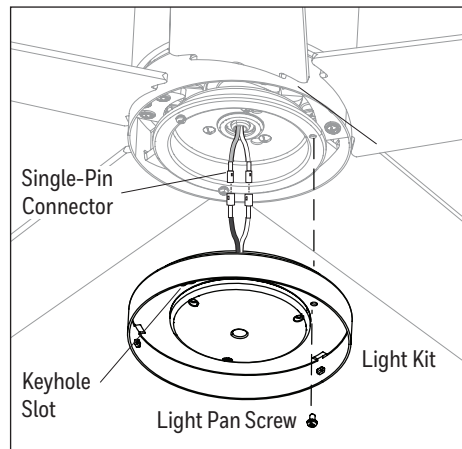

Figure 4.5
5. Remove one of the three light pan screws from the light pan and loosen the other two but do not remove. Connect the single-pin connector from the light pan to the single-pin connector from the light kit -- blue to black and white to white. Lift the two keyhole slots in the light kit over the two loosened light pan screws and turn in a clockwise direction. Then, use the previously removed light pan screw to secure the light kit to the light pan. Tighten all screws (Figure 4.5).